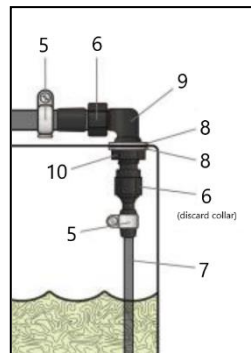

Figure 3
1. Choose an ideal location for the bulkhead fitting to be installed. The fitting must be installed through a flat surface where the nut can be tightened from the bottom. It must also be installed in a location where the fuel cuff will not interfere with the sending unit float. If possible, we strongly recommend removing, cleaning, and drilling into the sending unit. The fitting must be oriented as shown below in **Figure 3**. The item numbers from section 1.1 are referenced.
7. Screw fuel cuff assembly to bottom of bulkhead nut and snug with a wrench. Ensure bottom of cuff will be submerged in fuel as shown in **Figure 3**. Cuff can be trimmed if necessary.